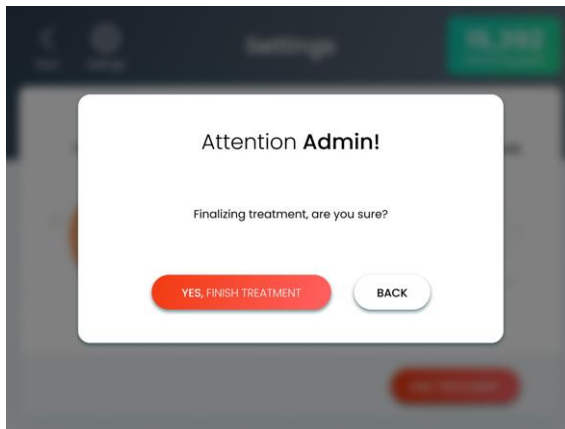

Figure 5-16. Finalizing Treatment Attention Screen
1. From the Treatment screen, press the **End Treatment** button; the Finalizing Treatment Attention screen appears, as shown in Figure 5-16.